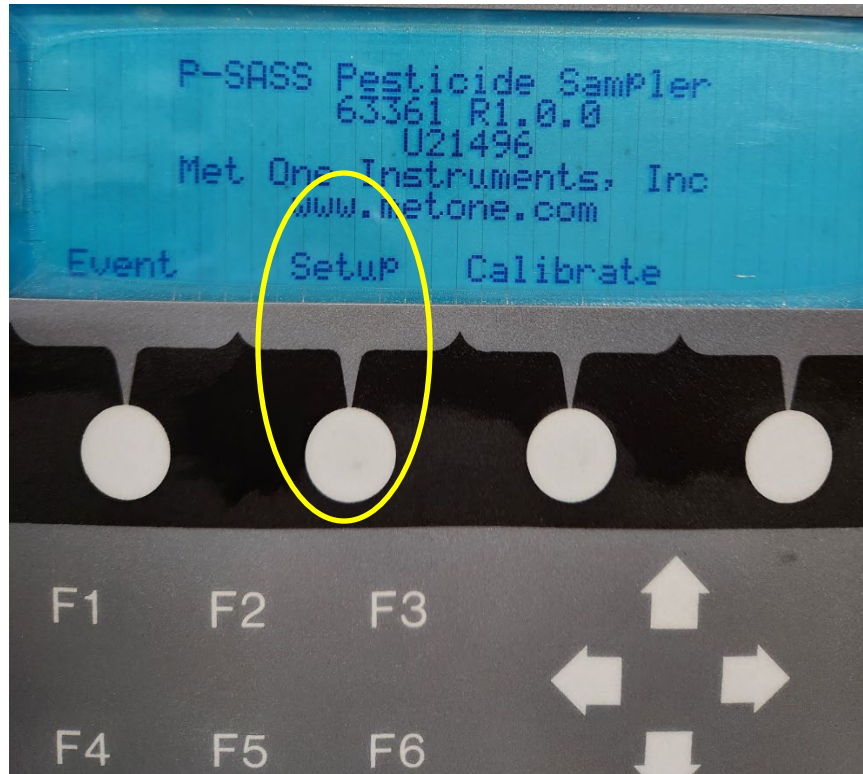

Figure 12: The main screen on Met-One.
- 3.2.1 Unlock and open the box and turn on Met-One by touching any of the buttons on the bottom of the display panel. From the main system display, press "Setup" (Figure 12).